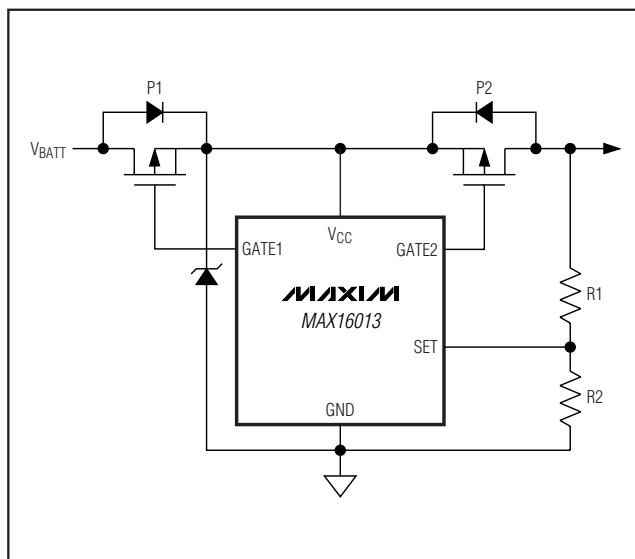

Figure 3. Overvoltage Limiter Protection
The MAX16013/MAX16014 can be configured as an overvoltage switch controller to turn on/off a load (see the *Typical Application Circuit*). When the programmed overvoltage threshold is tripped, the internal fast comparator turns off the external p-channel MOSFET (P2), pulling GATE2 to VCC to disconnect the power source from the load. When the monitored voltage goes below the adjusted overvoltage threshold, the MAX16013 enhances GATE2, reconnecting the load to the power source (toggle ENABLE on the MAX16014 to reconnect the load). The MAX16013 can be configured as an overvoltage limiter switch by connecting the resistive divider to the load instead of VCC (Figure 3). See the *Overvoltage Limiter* section.
- Add a zener diode or transient voltage suppressor (TVS) rated below V_{CC} absolute maximum rating (Figure 3).
Most battery-powered applications must include reverse voltage protection. Many times this is implemented with a diode in series with the battery. The disadvantage in using a diode is the forward voltage drop of the diode, which reduces the operating voltage available to downstream circuits ($V_{LOAD} = V_{BATTERY} - V_{DIODE}$). The MAX16013 and MAX16014 include high-voltage GATE1 drive circuitry allowing users to replace the high-voltage-drop series diode with a low-voltage-drop MOSFET device (as shown in the *Typical Operating Circuit* and Figure 3). The forward voltage drop is reduced to $I_{LOAD} \times R_{DS-ON}$ of P1. With a suitably chosen MOSFET, the voltage drop can be reduced to millivolts.